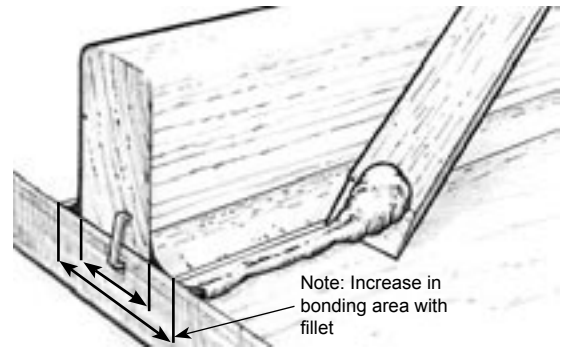

Figure 3-11 Clean up remaining excess epoxy outside of the clean margin before it cures.
4. Clean up the remaining excess material by using a sharpened mixing stick or a putty knife (*Figure 3-11*). Fibreglass cloth or tape may be applied over the fillet area before the fillet has cured (or after the fillet is cured and sanded).